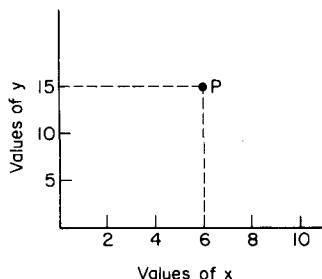

Fig. 1.55 Rectangular co-ordinates
**Co-ordinates.** Co-ordinates are used to mark the points on the graph. In Fig. 1.55 values of  $x$  are plotted against values of  $y$ . The point P has been plotted so that  $x = 6$  and  $y = 15$ . The values of 6 and 15 are said to be the *rectangular co-ordinates* of the point P.